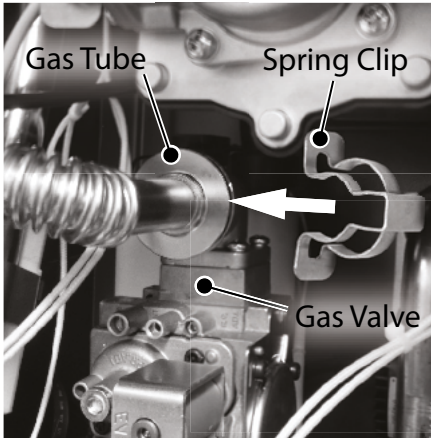

Figure 11 - Secure gas tube with spring clip
- 19 Connect the gas tube to the gas valve. Locate the spring clip previously removed in **Step 9**. Orient spring clip properly as shown in Figure 11. Install spring clip to secure the gas tube to the gas valve. Confirm gas connection is tight and will not leak.